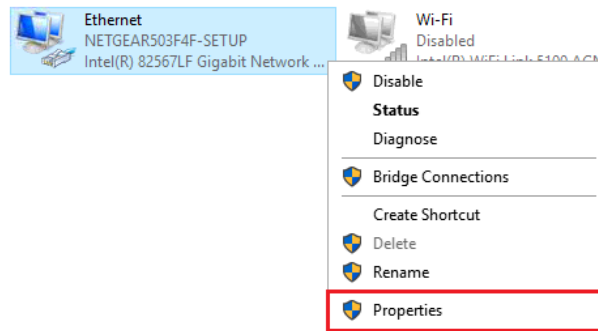

Figure 12: Ethernet connection
3. The following window opens (see Fig. 12). Select the Ethernet connection and right-click on “Properties”.